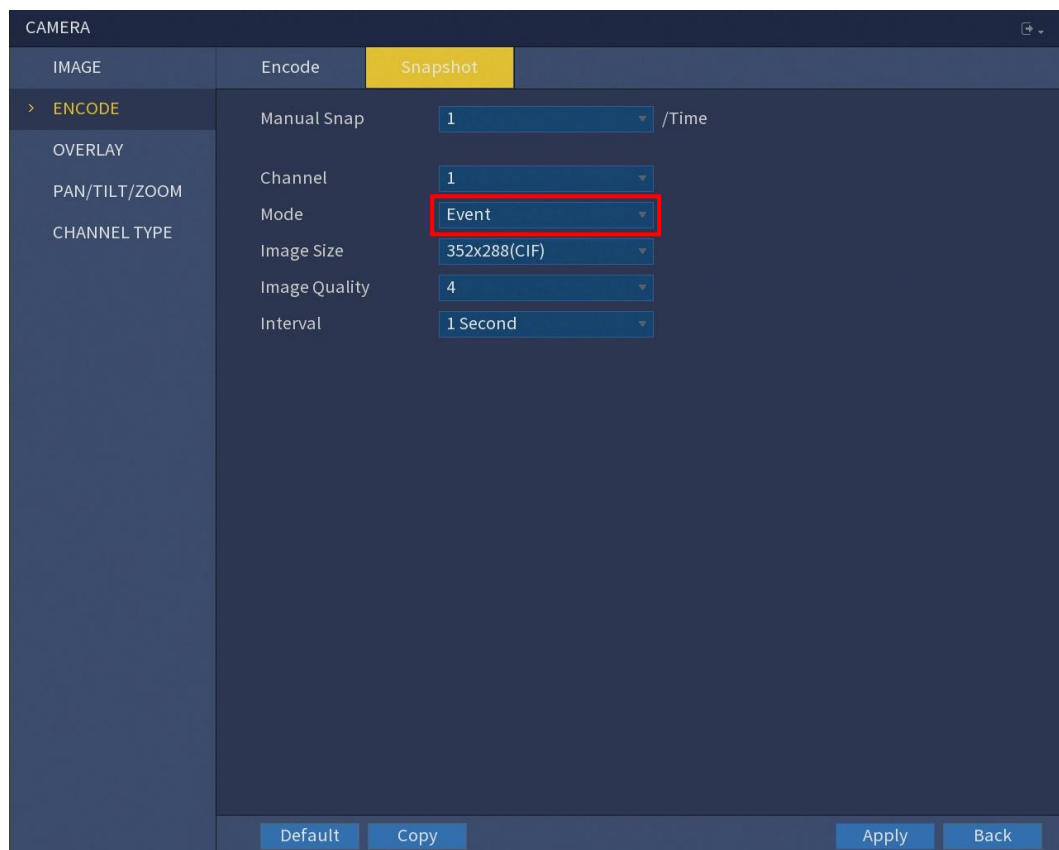

Figure 5-61
2. In the **Mode** list, select **Event**, and then configure other parameters. See Figure 5-61.